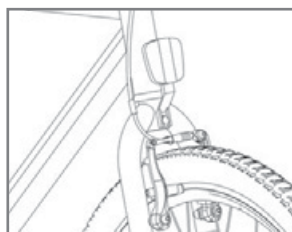

Fig. 6. Reflecting light installation
9. If the installed bicycle is a version without the mudshields and the light, a white reflective light is installed instead of the lamp, Fig. 6.